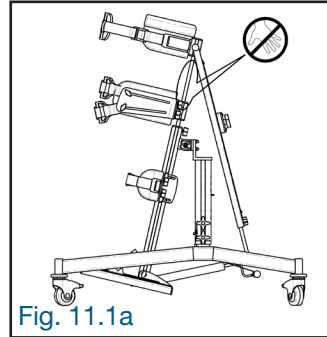

Fig. 11.1a
- When adjusting the height of the product by loosening the two locking knobs (A) at the back of the frame and the two locking knobs (B) at the bottom of the stabilizer platform, DO NOT place fingers or hands between the hip block (C) and the thoracic block (D) (Fig. 11.1a). Always hold the thoracic block (D) with one hand to prevent it from sliding down and trapping fingers and hand between the thoracic (D) and hip blocks (C).